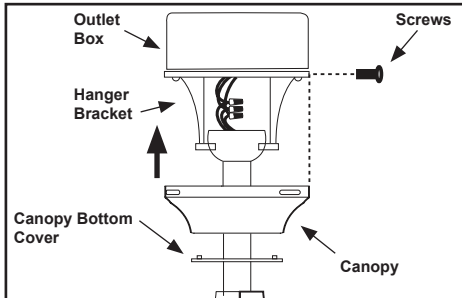

Figure 9
8. Slide canopy up to the ceiling as shown in Figure 9. Make sure you place the wires safely into the outlet box. Secure the canopy to the hanger bracket with the four screws with your fan, snap canopy bottom cover to canopy.